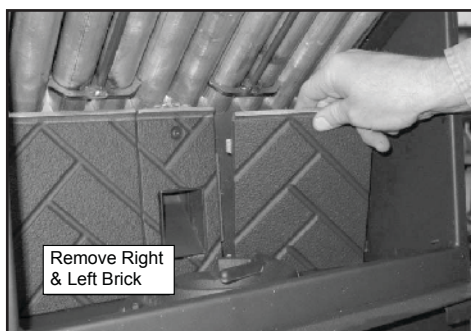

Figure 20.2
3. The top baffle must be removed before you can remove the right and left brick. Remove the right brick by holding top lip of brick and lifting up, then push outside edge back. Slide brick to the right until it is flush with the firebox. Rotate the inside edge of the brick forward and remove brick. Repeat for left brick. **Figure 20.2.**